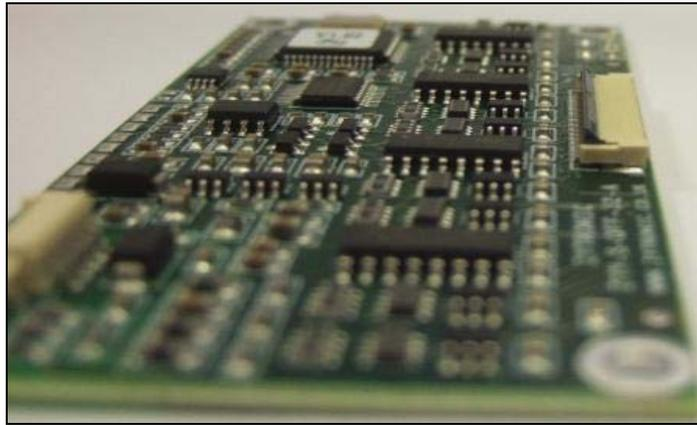

Figure 9: *ZIF connector open with locking bar vertical to housing*
- Ensure the locking bar of the PCB ZIF connector is open (i.e. vertical to the body of the connector, as shown in Figure 9).